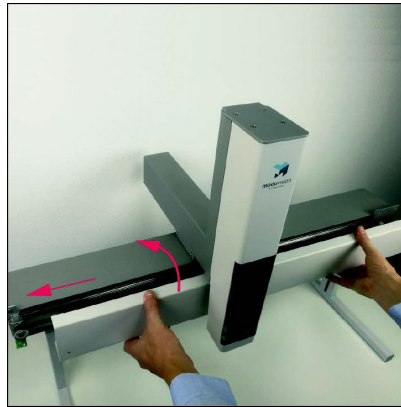

Figure 112: X-beam Front Cover Assembly 1
1. Pull the autosampler tower a few centimeters away from the front of the X-rail. Gently angle and move sideways the front cover onto the X-Rail frame. This movement is performed from right to left, as shown Figure 112.